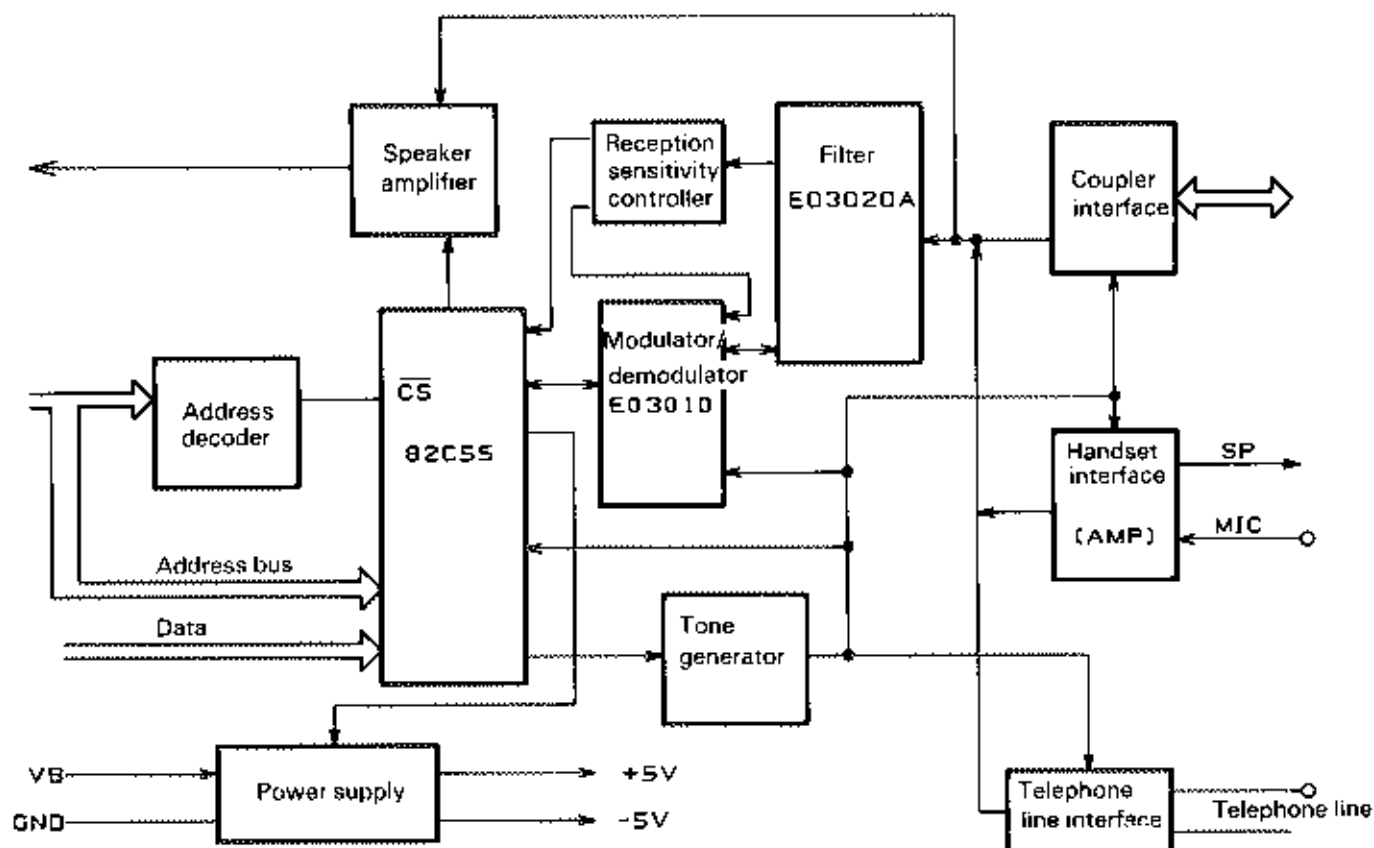

Fig. 3-49 Modem Unit Functional Circuit Block Diagram
As shown in fig. 3-49, the MAP-MD board consists of a power supply (DC-DC converter) section (1), a telephone line interface (2), a handset interface (3), a coupler interface (4), a tone generator (5), a filter section (6), a modulator/demodulator section (7), a speaker amplifier (8), an address decoder section (9), and a parallel controller (10). The unit operations are accomplished through a read/write from the Main Frame CPU using the I/O address that is assigned to this unit.